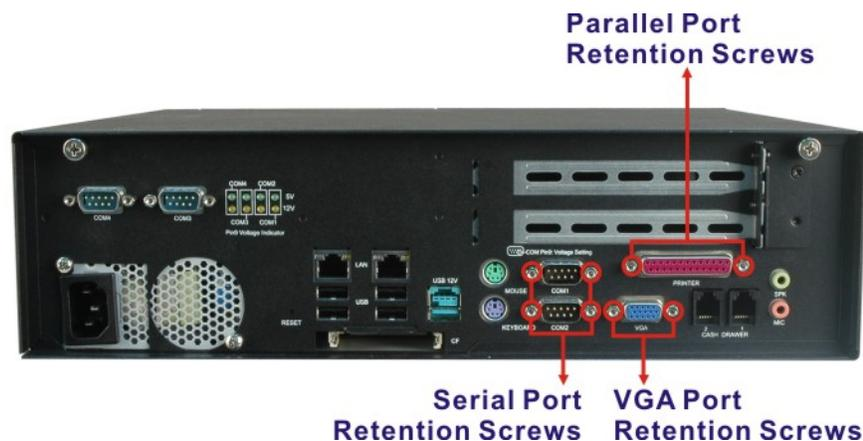
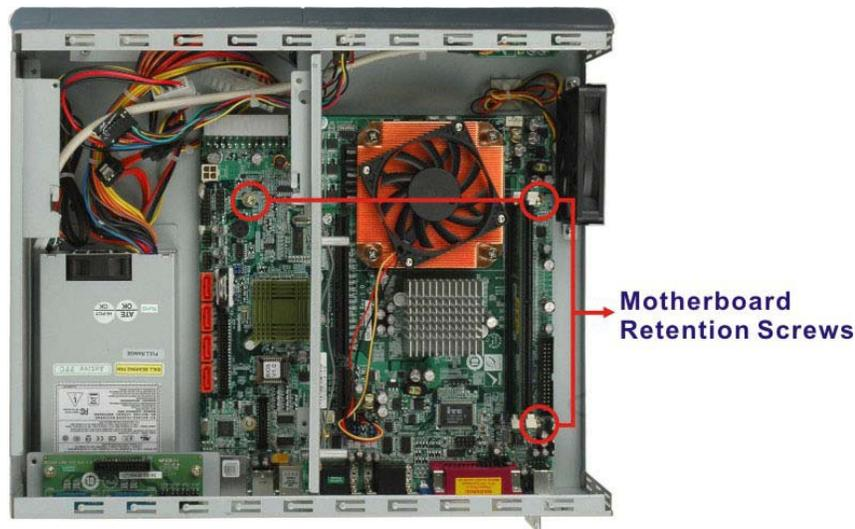

Figure 8-9: Rear Panel Connector Retention Screws
Figure 8-11: Motherboard Retention Screws
(Figure 8-9)
Step 10: Remove the three retention screws that secure the POS motherboard to the iSignager-1000-Q354. (See **Figure 8-11**)
Step 4: Reinsert the three previously removed motherboard retention screws and the 12 previously removed rear panel retention screws. (See **Figure 8-11** and **Figure 8-9**)